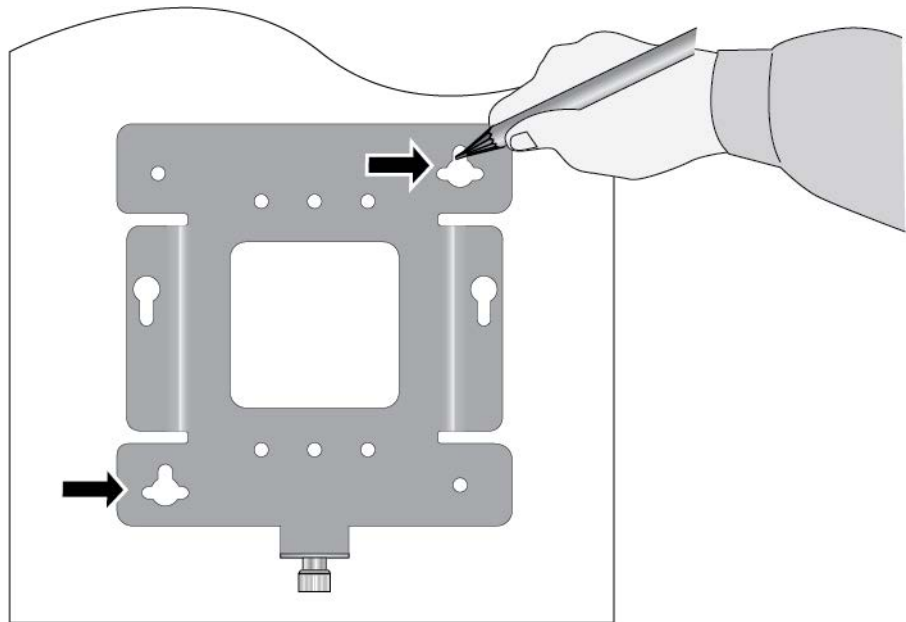

Figure 15. Marking the Holes for the Keyhole Slots
3. With a pencil, mark the wall or ceiling with the two keyhole slots of the bracket. Refer to Figure 15.